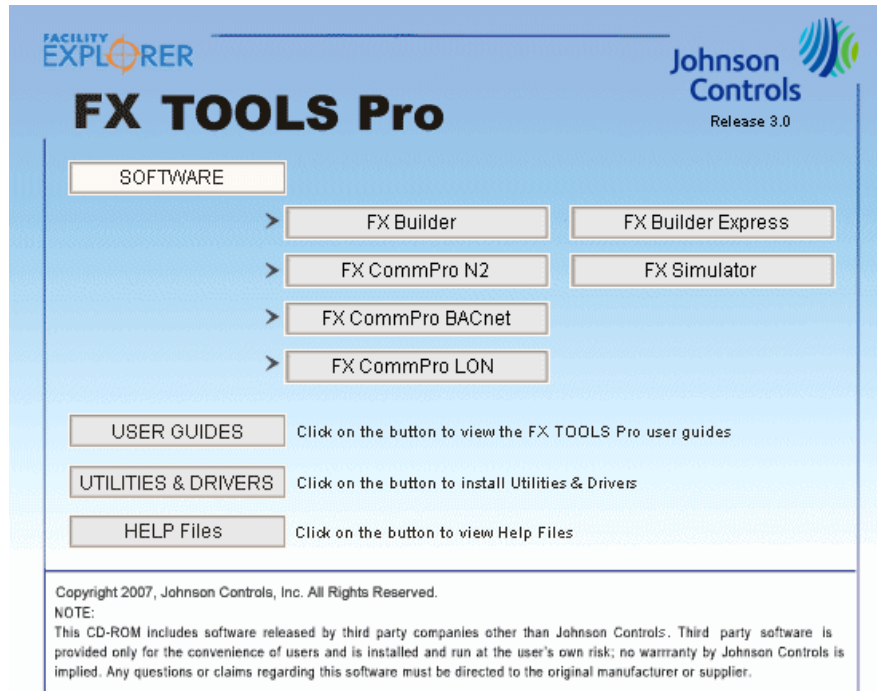

Figure 1: FX Tools Pro Software Menu
2. Insert the FX Tools CD-ROM into the CD-ROM drive. The FX Tools starts automatically. The CD-ROM Navigator appears (Figure 1).